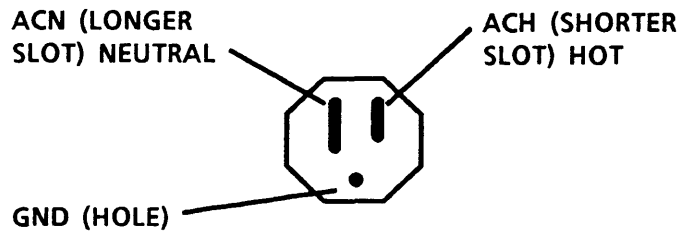

Figure 2-1 Wall Receptacle)
1. MEASURE AND VERIFY VOLTAGE AT WALL RECEPTACLE (FIGURE 2-1).